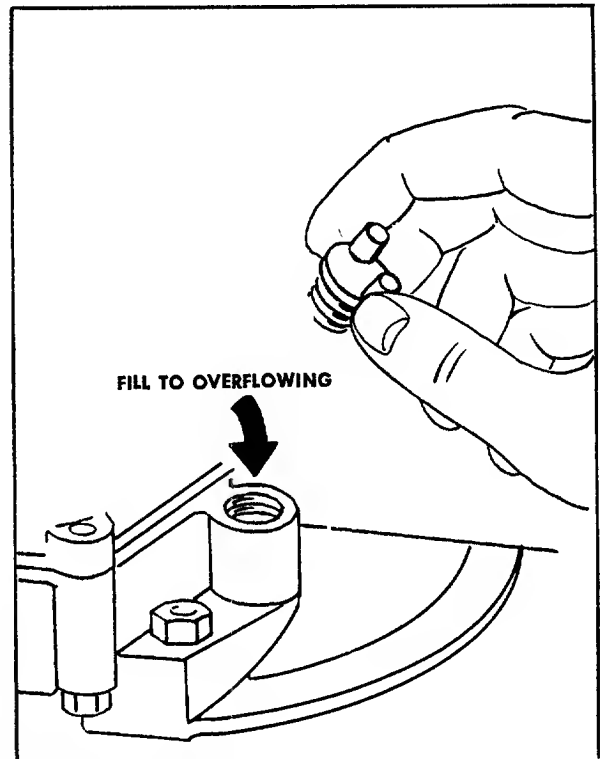

FIGURE 12. OIL FILL
Check the oil level in the crankcase before each use of the machine and after every two hours of operation. Keep the oil level to the overflowing point. See figure 12.
- Step 3. With the machine on level ground, remove the oil filler plug. See figure 12. Fill the crankcase until the oil overflows from the oil fill hole. Fill slowly to avoid air locks. The crankcase holds approximately 1 3/4 pints of good quality SAE 30 type MS engine oil. Replace the oil filler plug.